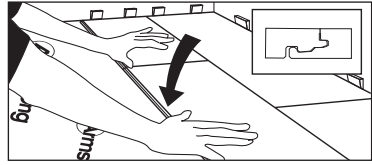

Fig. 14
6. Mark the last piece, cut and install. After all boards in the row are installed, press or walk all boards flat to the subfloor to begin the next row (Fig. 14).